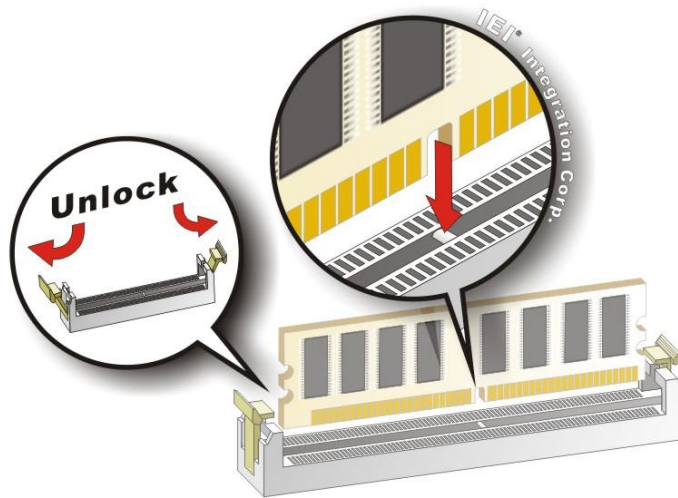

Figure 3-8: DIMM Installation
To install a DIMM, please follow the steps below and refer to **Figure 3-8**.
Step 1: Open the DIMM socket handles. Open the two handles outwards as far as they can. See **Figure 3-8**.
Step 2: Align the DIMM with the socket. Align the DIMM so the notch on the memory lines up with the notch on the memory socket. See **Figure 3-8**.
Step 3: Insert the DIMM. Once aligned, press down until the DIMM is properly seated. Clip the two handles into place. See **Figure 3-8**.